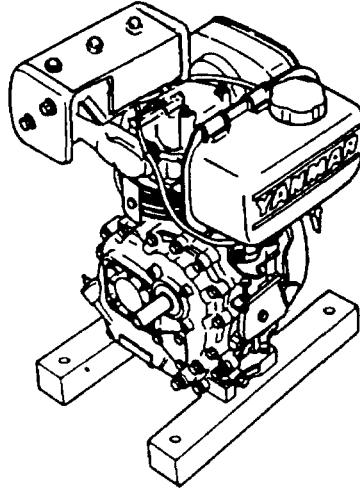

Figure 6-1 Removing the fuel tank
- 5) Remove the fuel tank (see Figure 6-1).